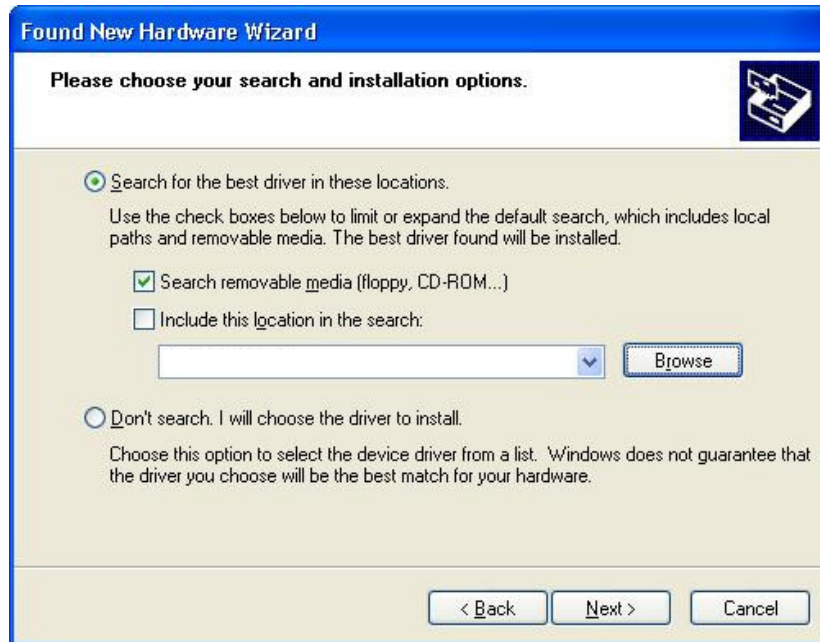

Figure 3
- Insert driver CD and select "Search Removable Media..." as shown in Figure 3 below and then click "Next".